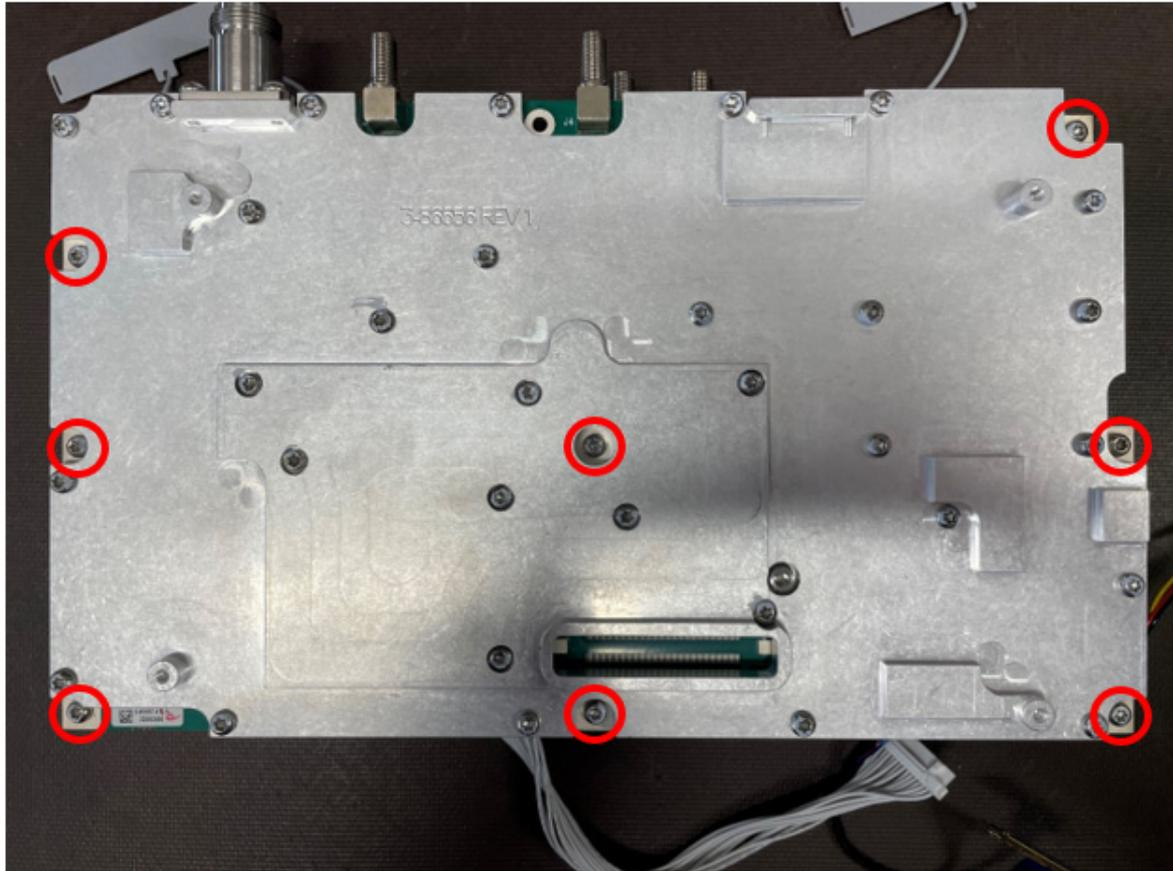

Figure 4-16. SPA PCB Removal: Torx Screws
3. Remove the eight Torx screws securing the SPA PCB Assembly to the Main PCB using a T10 Torx driver. See Figure 4-16.